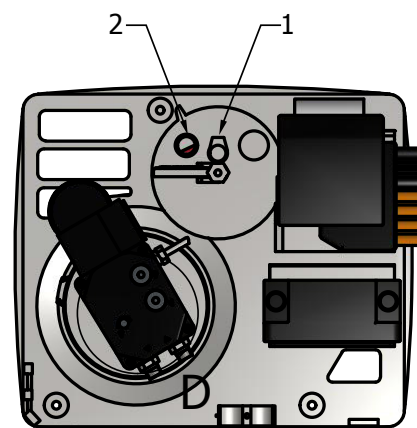
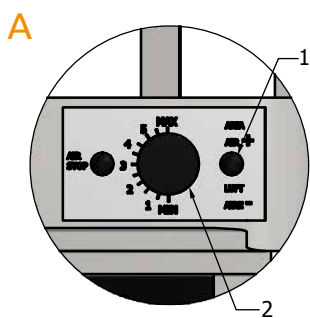

Fig. 7
Fig. 9
a) Make sure that the burner's heating power setting corresponds to boiler size. This adjustment is made using Fig.7 element 1 by turning a screwdriver to the left or right.
b) Initial setting of the air damper is made by turning the adjustment screw Fig. 9, element 1, for approx. 1 level in line with Fig. 8, element 2.
Carefully watching the boiler's chimney outlet (there should be no black or white smoke), adjust fuel amount to a satisfying dose (typical setting in the range from extreme left position + 1 turn to the right to 2.5 turns to the right). Make sure that the burner-boiler assembly does not shake in the resonance (characteristic loud rumbling noise). In case fuel pump adjustment range is insufficient, adjust the air damper Fig. 9, element 1 (typical setting range: 0.5 - 2.0). This setting and precision adjustment should be conducted several times until a light flame is achieved in the direct view window as in Fig. 7, element 2. The target adjustment should be performed on a heated machine during a third or fourth boiler heating (normal operation mode), whereas precision adjustment refers to the machine's cold start procedure.